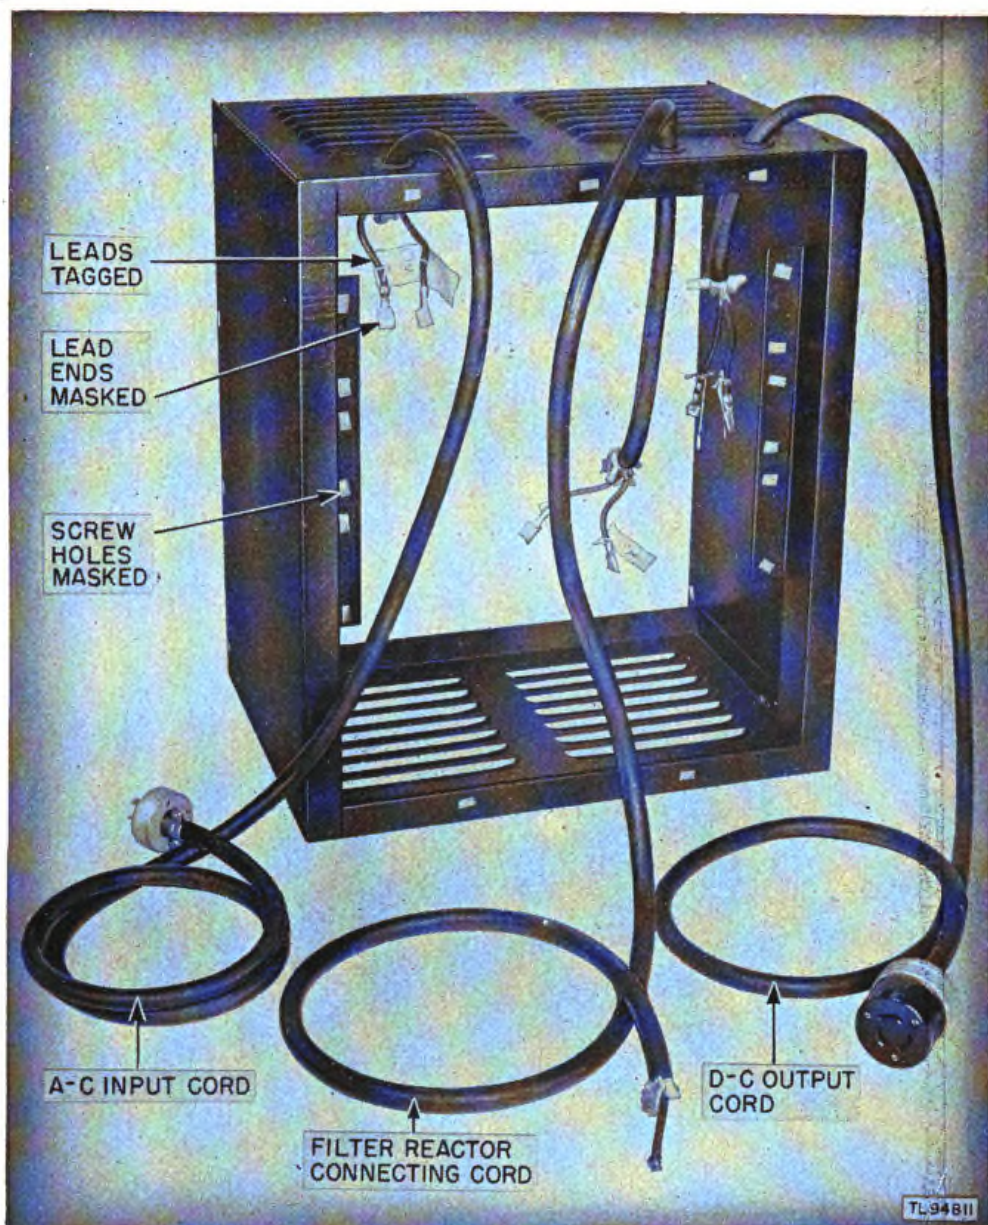

Figure 15. Rectifier RA-36-N, masking, cabinet and cords.
(7) Mask the terminals lugs on the a-c and d-c power cords, and reactor cord. (See fig. 15.)
(9) Cover all exposed screw holes in the case, panels, and chassis with masking tape. (See fig. 15.)